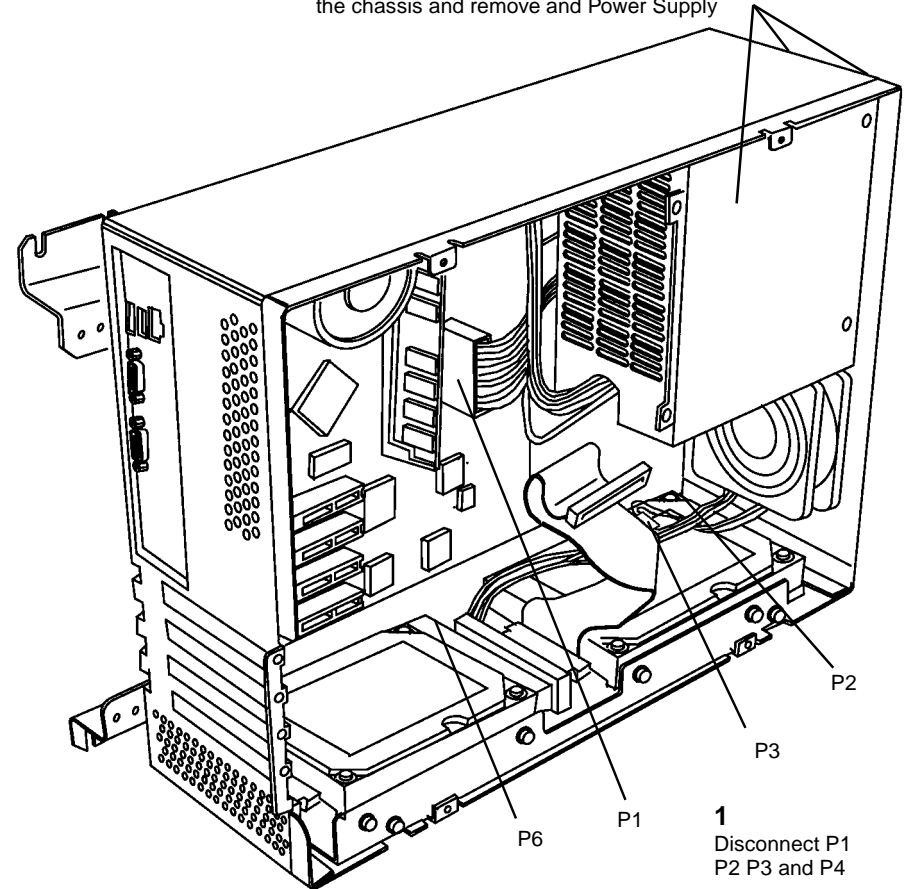

Figure 1 Removing Controller Power Supply
5. Remove Controller Power Supply (Figure 1).